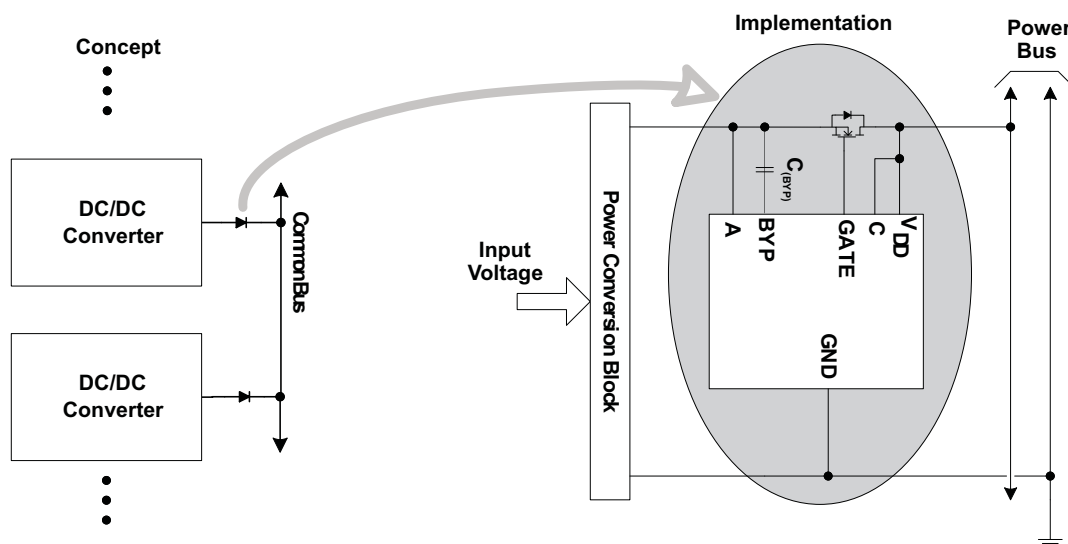
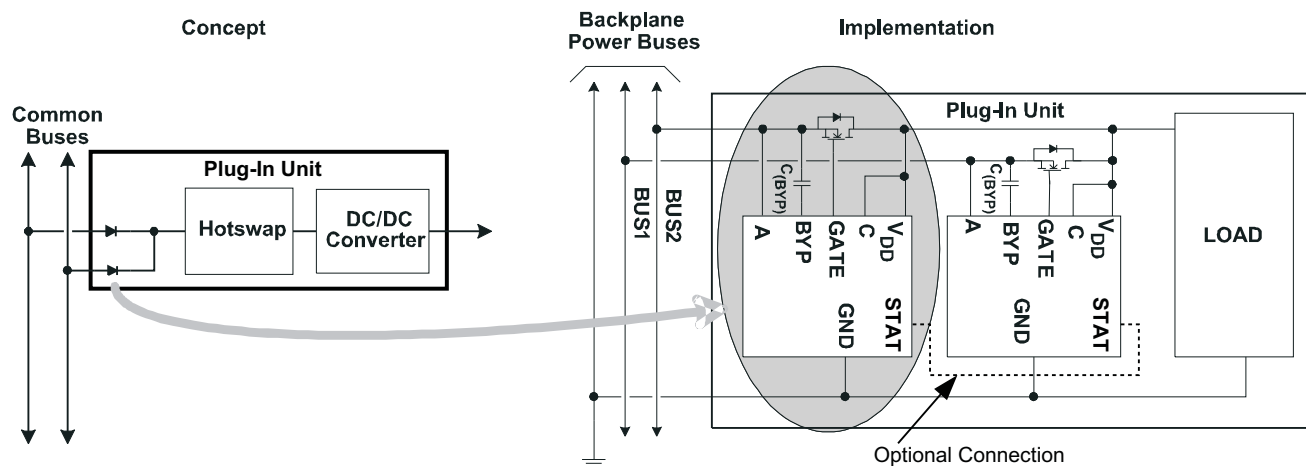

Figure 12. N+1 Power Supply Example
Figure 13. Example ORing of Input Power Buses
**STAT:** STAT is a multifunction pin. STAT outputs the status of the GATE pin drive. The internal weak pull-up pulls STAT to  $V_{DD}$  when GATE is being driven high and  $V_{(GATE)}$  is 0.4 V greater than  $V_{(A)}$ . If STAT is externally pulled below  $V_{DD}/2$  while the pin would otherwise be high, the turnoff threshold is shifted negative (~157 mV) from the RSET programmed value. Interconnecting the STAT pins of redundant devices, in systems that normally have both devices on, reduces the likelihood that both devices will turn off in the event of a transient. See the *FUNCTIONAL BLOCK DIAGRAM, INPUT ORing and STAT*, and Figure 13.
The TPS2410/11 is designed to allow output ORing in N+1 power supply applications (see Figure 12) and input-power bus ORing in redundant source applications (see Figure 13). The TPS2410/11 and external MOSFET emulate a discrete diode to perform this unidirectional power combining function. The advantage to this emulation is lower forward voltage drop and the ability to tune operation.
The N+1 power supply configuration shown in Figure 12 is used where multiple power supplies are paralleled for either higher capacity, redundancy or both. If it takes N supplies to power the load, adding an extra, identical unit in parallel permits the load to continue operation in the event that any one of the N supplies fails. The supplies are ORed together, rather than directly connected to the bus, to isolate the converter output from the bus when it is plugged-in or fails short. The TPS2410/11 with an external MOSFET emulates the function of the ORing diode.
Figure 13 shows how redundant buses may be ORed to a common point to achieve higher reliability. It is possible to have both MOSFETs ON at once if the bus voltages are matched, or the combination of tolerance and regulation causes both TPS2410/11 circuits to see a forward voltage. The ORing MOSFET disconnects the lower-voltage bus, protecting the remaining bus from potential overload by a fault.
Interconnecting STAT pins can be used to reduce the occurrence of both MOSFETs turning off in topologies such as Figure 13 that normally have both MOSFETs ON. This might occur when there is a noise transient on both buses due to fans cycling on and off, or an ac mains disturbance. If both MOSFETs are ON, and then an ORing circuit turns OFF, the second ORing circuit's fast turnoff threshold is shifted negative by 157 mV from the RSET programmed value because STAT is pulled low. This reduces the probability that it too will turn off as the arrival of the transient, and speed of both circuits, is unlikely to be matched. Maintaining at least one device ON avoids both a bus transient due to the current interruption, and momentary downstream hotswap overload when the ORing recovers. The function of STAT is not limited to the topology of Figure 13 and may be used to dynamically shift the fast turnoff threshold. The internal circuit shown in the *FUNCTIONAL BLOCK DIAGRAM* will assist in designing these applications.